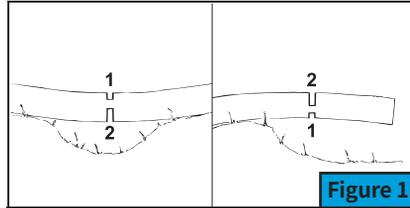

Figure 1
**If the tree is under tension, the guide may be clamped. Users can lose control of the chain saw, resulting in serious injury. (Figure 1)**
(1) First cut a relief groove from the tight side (1), and then cut into the anti loose side (2).